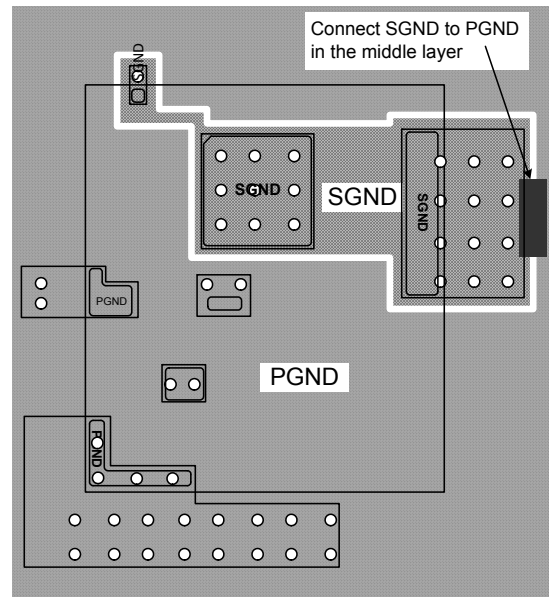

FIGURE 29. RECOMMENDED LAYOUT - CONNECT SGND TO PGND IN THE MIDDLE PCB LAYER AFTER ESTABLISHING SEPARATE SGND AND PGND
- Establish separate SGND plane and PGND plane, then connect SGND to PGND plane as shown in Figure 29 in the middle layer. For making connections between SGND/PGND on the top layer and other layers use multiple vias for each pin to connect to inner SGND/PGND layer. Do not connect SGND directly to PGND on a top layer. Connecting SGND directly to PGND without establishing SGND plane will bypass the decoupling capacitor at internal reference supplies, making controller susceptible to noise.